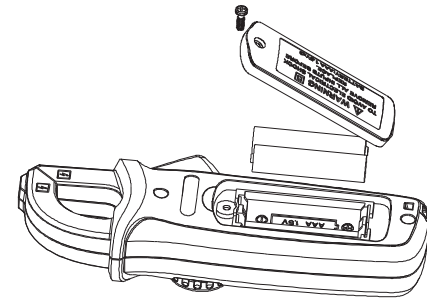

Figure 4
2. Replace battery (see Figure 4)